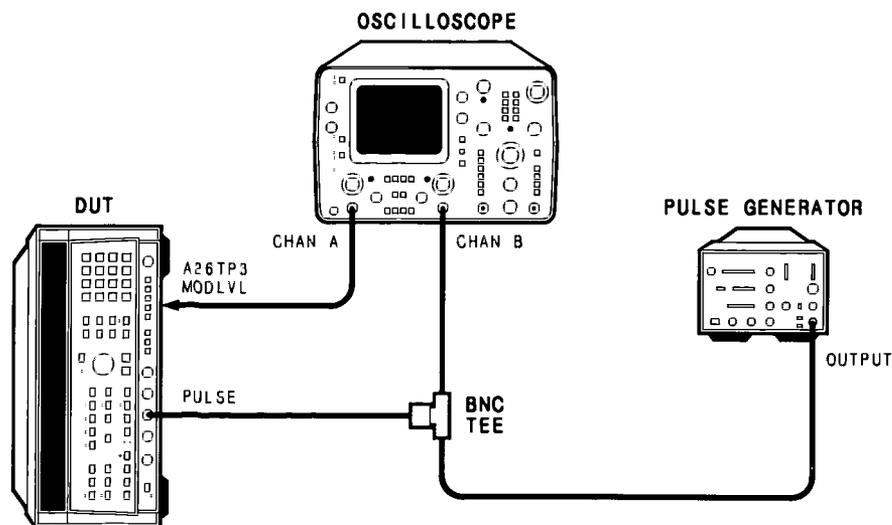

Figure 5-67. Pulse Modulation Rise and Fall Time Test Setup
16. Connect the instruments as shown in Figure 5-67